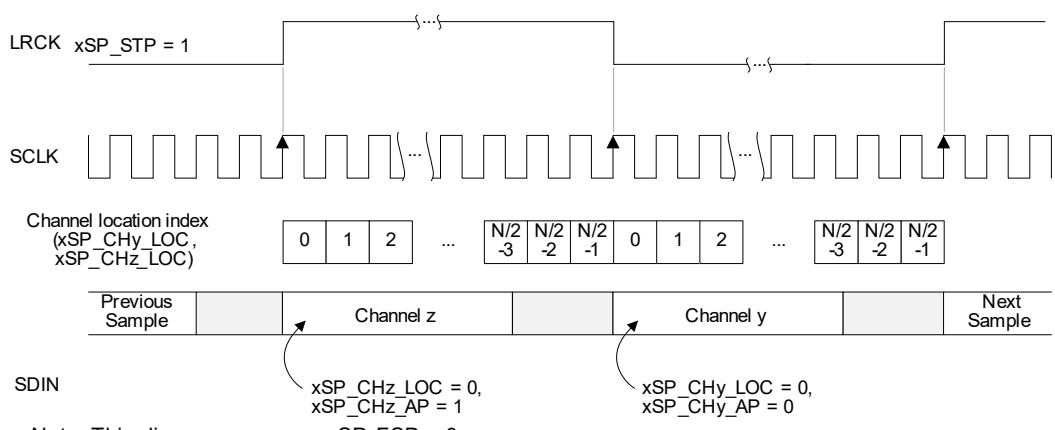

Figure 4-27. Example 50/50 Mode (ASP_STP = 1)
- If $xSP_STP = 1$, the frame begins when LRCK/FSYNC transitions from low to high. See Fig. 4-27 for an example in 50/50 mode. TDM mode is similar.